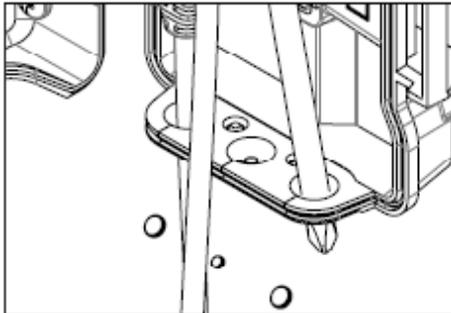

Figure 2c
3. To prepare the cable grommet, push out the tear-away caps over the (3) cable entry points using a screwdriver as shown in Figure 2c.